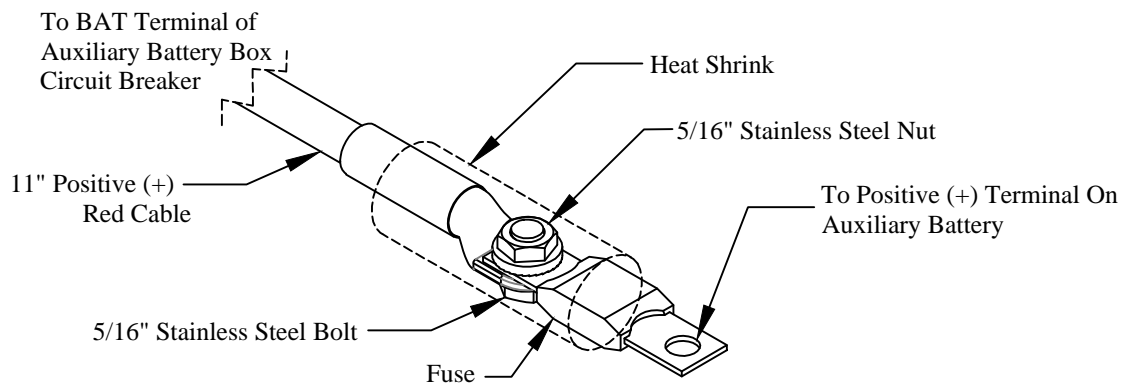

Figure 20: Fuse installation.
11. **Apply** heat shrink over the fuse's bolted connection (Figure 20).